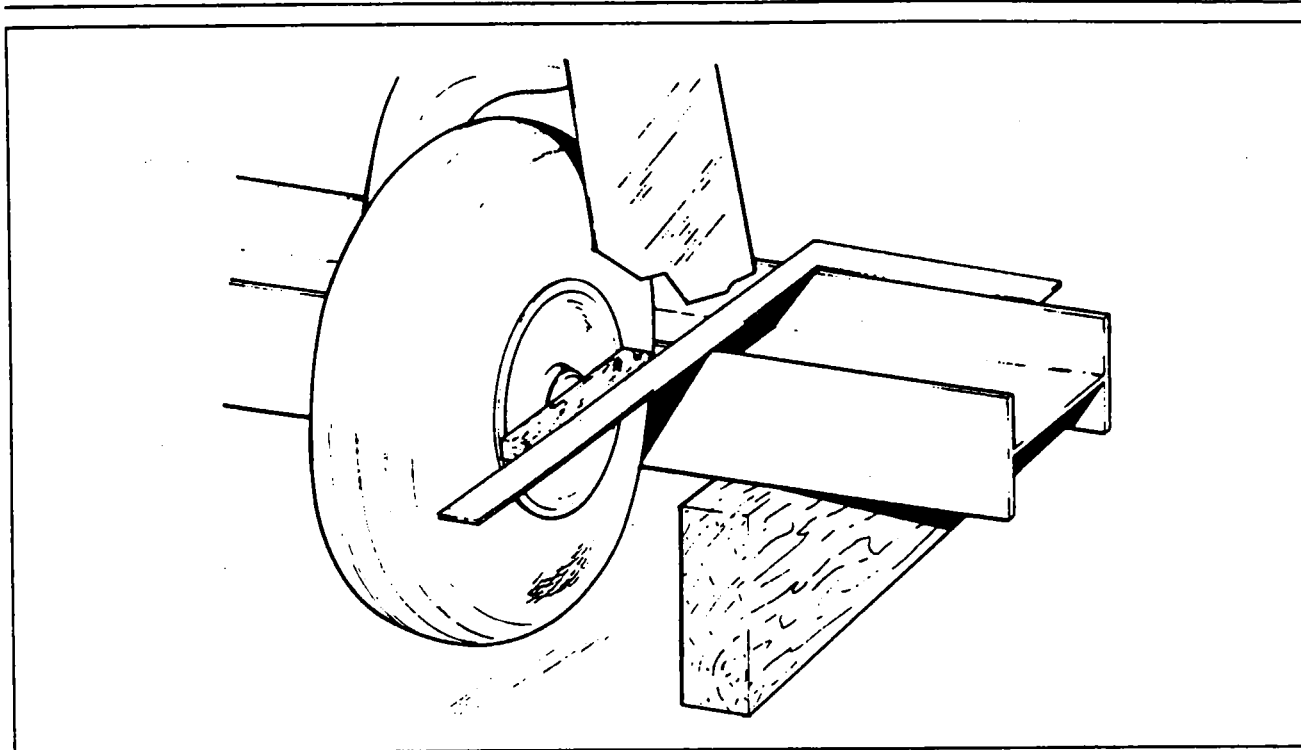

Figure 7-9. Aligning Main Gear
- d. Place a straightedge no less than fifteen feet long across the front of both main landing gear wheels. Butt the straightedge against the tires at the hub level of the landing gear. Ascertain that the straightedge is the same distance from the forward side of the axle hubs. Devise a support to hold the straightedge in position. (Refer to Figure 7-9.)
- e. Fabricate a spacer block per dimensions given in Figure 7-22, and place this spacer block against the wheel rim at the hub line, with the wide end of the spacer towards the front of the wheel. (Refer to Figure 7-9.)